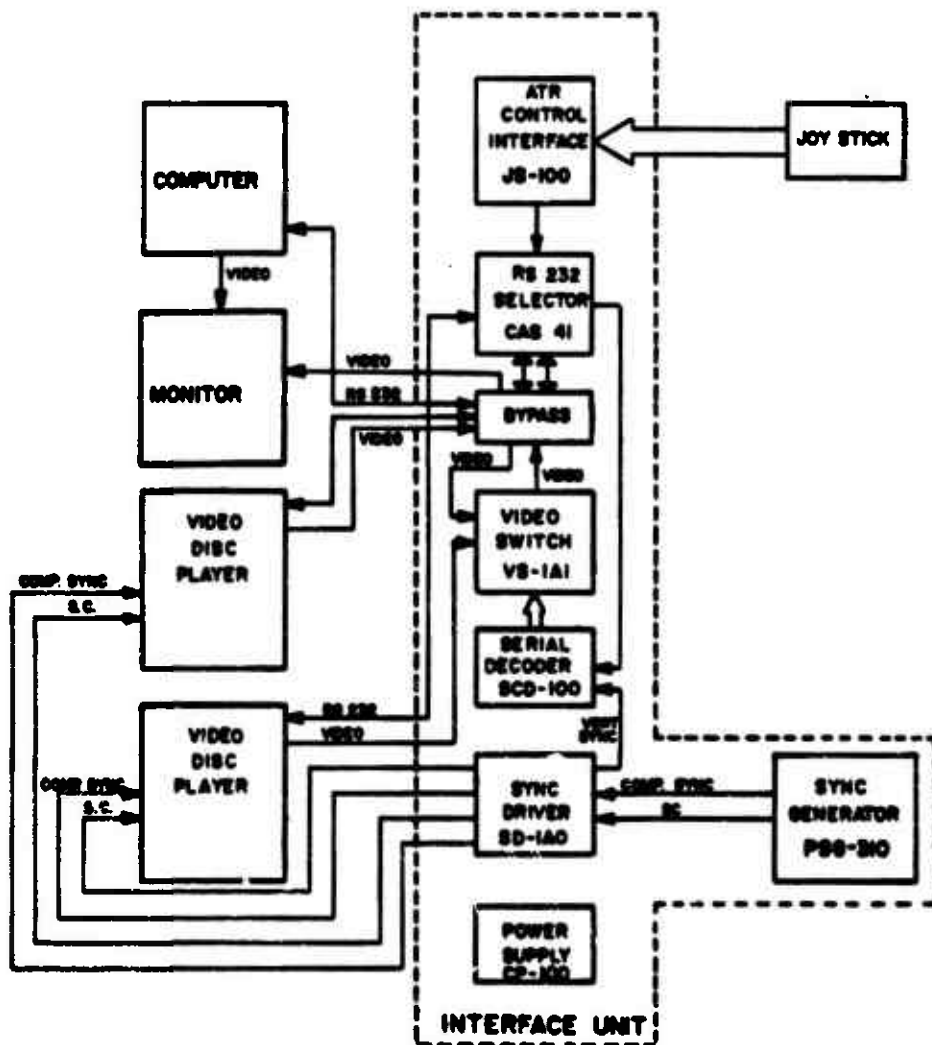

Figure 2-3. ATR INTERFACE UNIT BLOCK DIAGRAM
2.2.4 ATR Interface Unit - The Interface Unit ties the various components of the system together. It multiplexes the RS-232 data lines, selects the video signal to be displayed, generates composite sync and subcarrier signals for the videodisc players and converts the joystick signals to RS-232 format. Figure 2-3 is a detailed block diagram of the ATR system which shows the internal components of the Interface Unit and the signals between them and the rest of the ATR System.